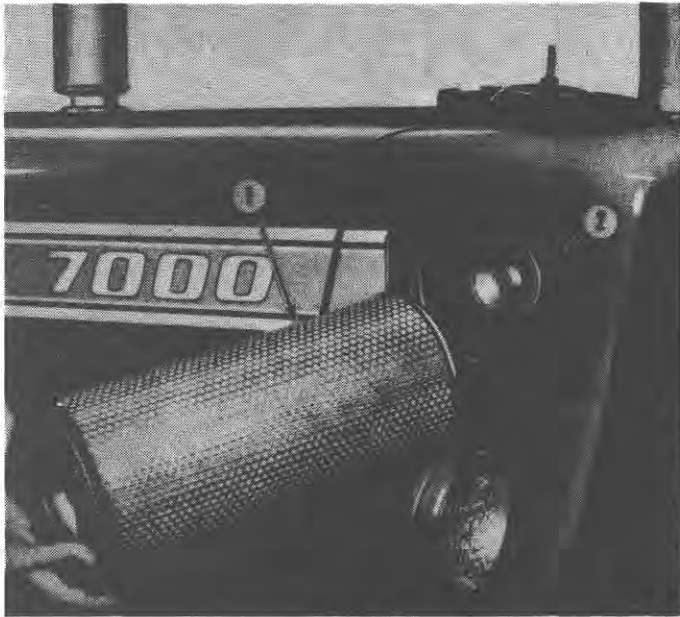

Figure 1
The air cleaner, Figure 1, on the Ford 7000 Tractor is located in front of the radiator and is of the dry element type. It consists of a primary element and a secondary (safety) element.
1. Remove the filter element, Figure 1.